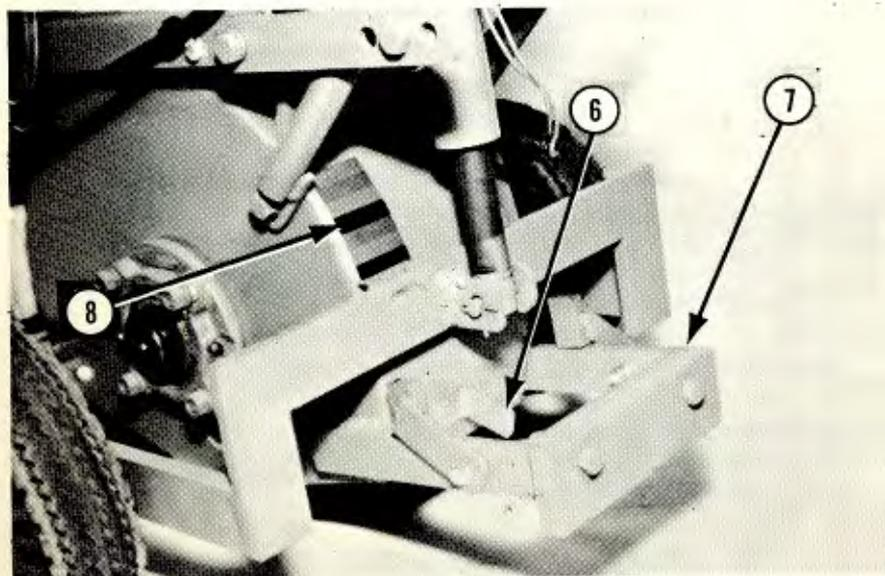

FIGURE 3
(Refer to Figure 3, Page 8)
1. Open throttle for maximum engine speed. Position machine over joint and line up pointer **6** (Figure 3, Page 7) with joint. **NOTE:** Machine is designed to travel in a direction towards the operator. The stabilizer mechanism **7** is designed to stabilize the machine and to act as a brake. The Model 200 has a tendency to self-propel itself when cutting. To slow or stop machine push down on the handle. Refer to Page 10 for a more detailed explanation.
2. Lower cutter head until cutters slightly touch the surface. Notice color on the depth indicator **8** (Figure 3). To cut  $\frac{3}{4}$  inch depth, lower cutter until same color appears on depth indicator. **NOTE:** Each color represents  $\frac{1}{4}$  inch depth variation.